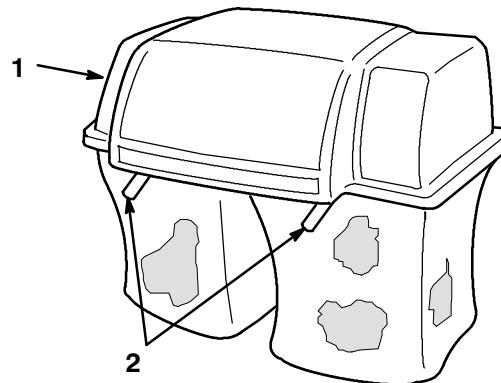

Figure 18
5. Lower the bagger top onto the bags. Then push down on both bag retainer handles until they lock on the bag frame (Fig. 18).